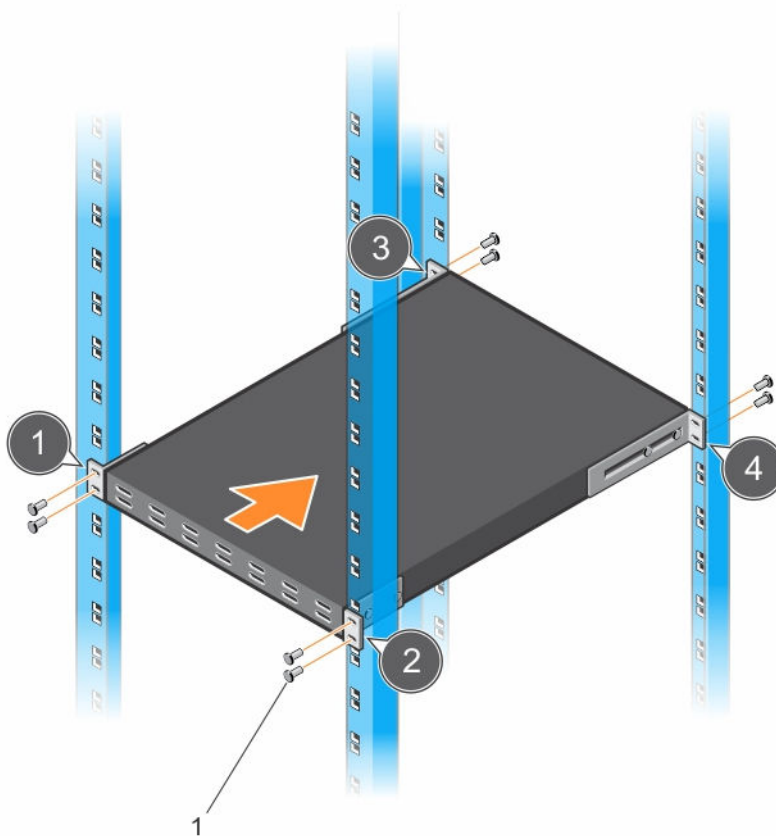

Figure 5. Example of a Mount Rack Tray
To install a rack mount tray in a 4-post rack, follow the instructions provided with the tray kit. Decide on the desired height to mount the switch in the rack. Position the tray at that height and tighten it to the rack posts using the screws shipped with the tray (items 1 to 4 in Figure 5).